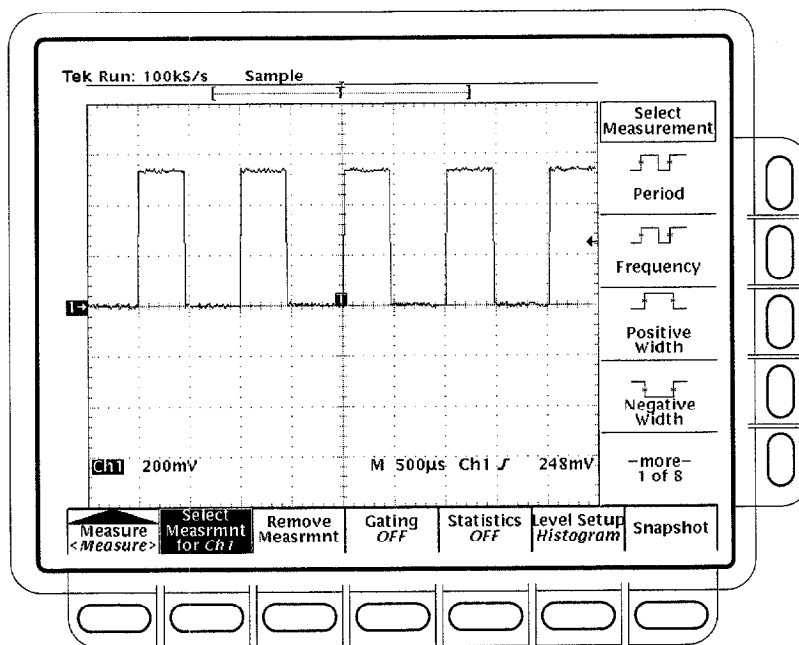

Figure 2-14: Measure Main Menu and Select Measurement Side Menu
4. Press **MEASURE** to display the Measure main menu. (See Figure 2-14.)